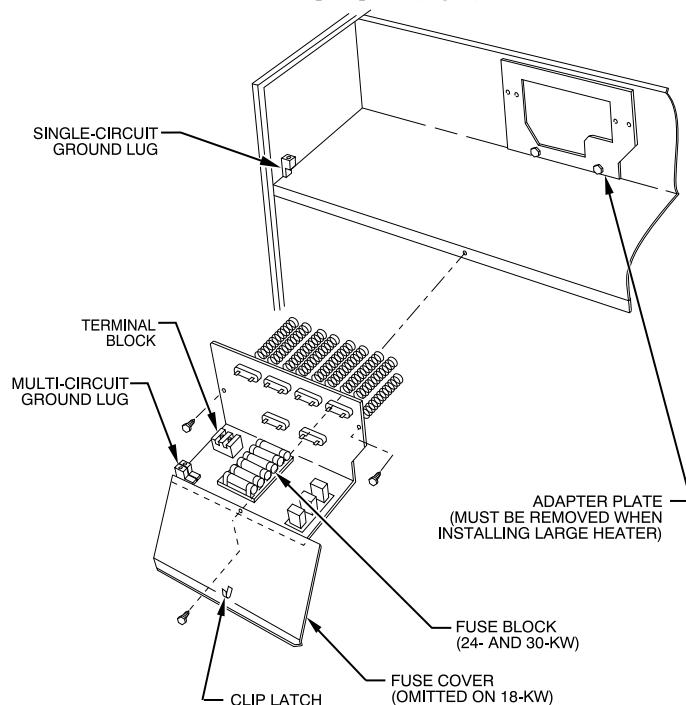

Fig. 6 – Installation of 18-, 24-, and 30-kW Model Heaters
- Disconnect 2 power wires (black and yellow pigtail leads) from PCB or wire harness (if applicable) and discard. Wires may be part of a plug assembly or attached to terminals L1 and L2. Remove cooling control plate from fan coil (if equipped). For 18-, 24-, and 30-kW heaters, remove adapter plate (Fig. 6).
- Attach heater control plate to fan coil using 2 screws provided. For 18-, 24-, and 30-kW heater models, attach front of heater to fan deck using third screw (Fig. 6).
Fuse assembly is mounted on heater. Be sure fuse cover is closed by engaging clip latch on unit top panel (Fig. 6).